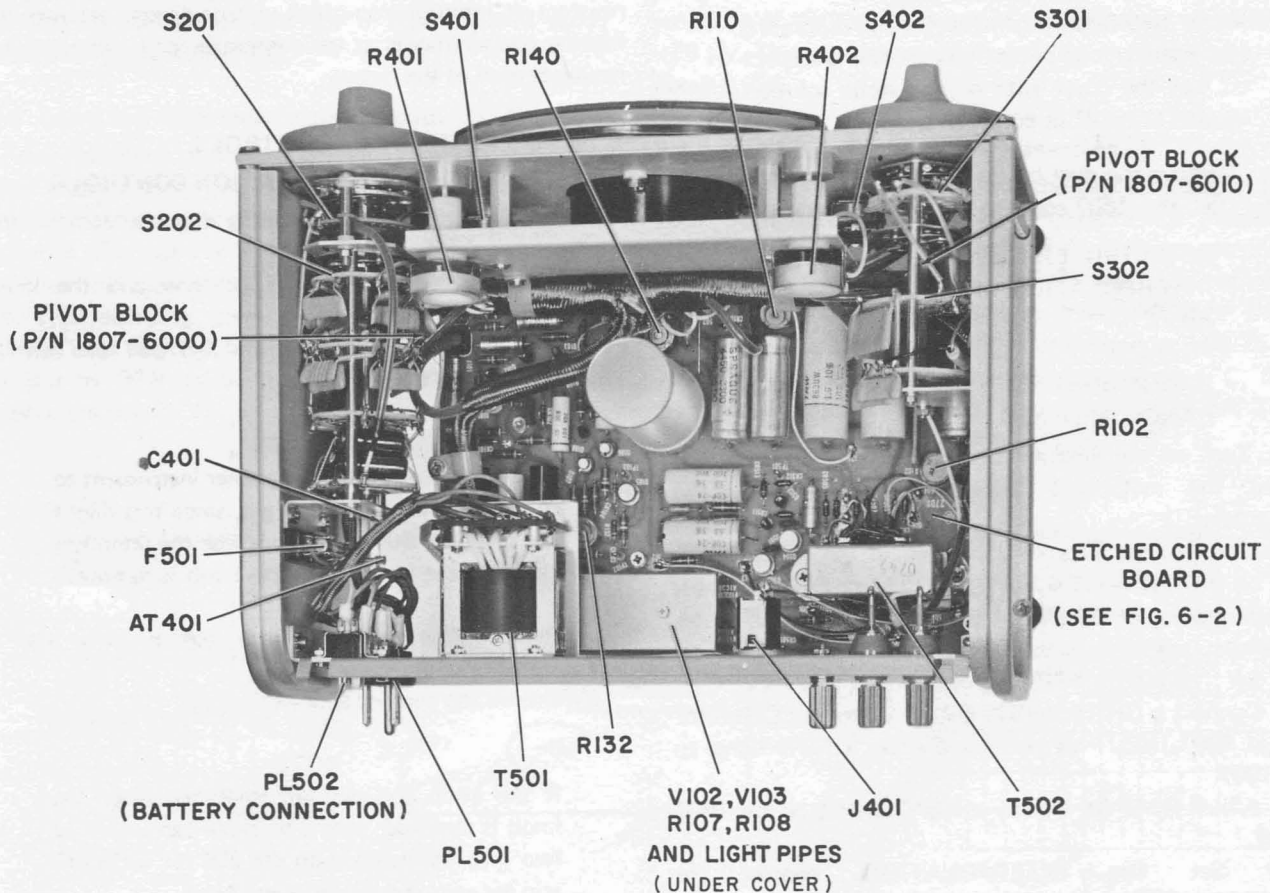

Figure 5-2. Top view of the 1807 with the dust covers removed.
Most of the parts and all internal adjustments are on one etched-circuit board in the instrument. (See Figure 5-2.) Other parts, such as the range-setting resistors (see Figure 6-5) and the interpolation-offset resistor-divider network (see Figure 6-6), are on switch wafers. A few parts (CR510, CR502, and CR514) are on the terminal board attached to transformer T501. C501 and C502 are mounted at power connector PL501, and CR401 is mounted at the rear of the meter. Table 5-4 lists the locations of parts according to reference designation groupings.
d. Connect the Digital Voltmeter to the RECORDER jack on the rear panel and adjust R132 (see Figure 5-2) for a DVM reading of $0 \pm 300 \mu V$, noting that the 1807 meter reads zero (adjust if necessary).
The photoconductors, light-conduction pipes, and neon bulbs are under the metal cover at the rear of the instrument (see Figure 5-2). Should it be necessary to gain access to these components, swing the board down according to the instructions in paragraph 5.5. Remove the screws on the metal cover to gain access to the components; the photoconductors are mounted at the ends of the light-conduction pipe.
in the "Federal Manufacturers Code" listing. Figure 6-1 shows a front view of the Type 1807, identifying parts. Figure 5-2 shows an interior view, identifying parts.